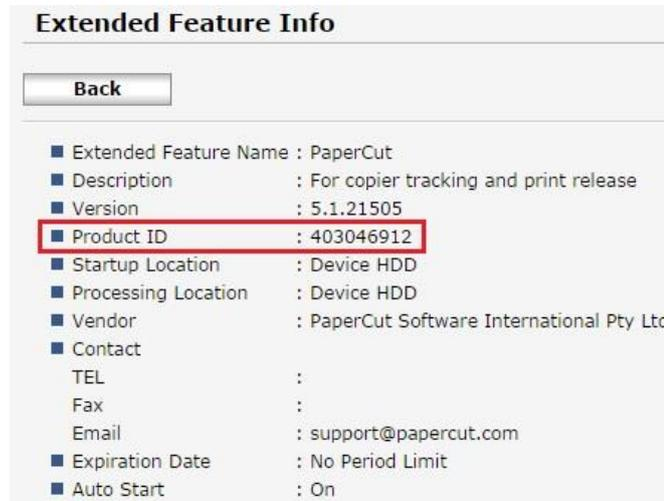

Figure 28: Determining an application's product ID.
3. Locate the target application and press the small list icon next to the application. This will display detailed information about the application, which includes the 9-digit application product ID (see Figure 28).